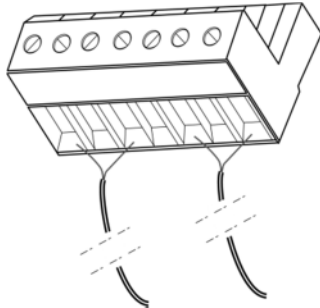

Figure 13 Connecting the Audio Output Cable to the Power Amplifier Input Wiring Terminal
- b. Take the end of the cable that was fed through the protective cover of the DCS wiring terminal connect the cable to the power amplifier output wiring terminal (7P green phoenix tail seating 5.08mm), and tighten the screws. Refer to Figure 13.
- d. Connect the end of the cable that was fed through the protective cover of the power amplifier to the power amplifier input wiring terminal (4P green phoenix tail seating 5.08mm), and tighten the screws. Refer to Figure 13.
Strip the wire jacket off one end of the prepared dry contact connection cable by about 10mm, insert the wires into the dry contact wiring terminal (8P green phoenix tail seating 3.81mm), and tighten the screws. Refer to Figure 13 for more information.
1. Strip off the wire jacket of one end of prepared dry contact output cable by about 10mm, insert dry contact wiring terminal (8P green phoenix tail seating 3.81mm), and tighten the screws. Refer to Figure 13.
2. Insert the dry contact output wiring terminal of the installed output cable into the DCS dry contact port. Refer to Figure 13.
1. Insert the prepared AVC connection cable into the AVC input wiring terminal and tighten the screws. Refer to Figure 13.
1. Strip off the wire jacket of one end of the prepared audio cable by about 10mm, insert the loudspeaker wiring terminal, and tighten the screws. Refer to Figure 13.